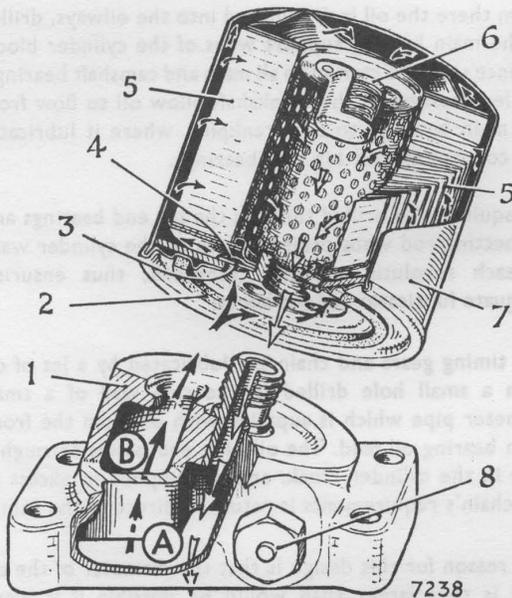

Fig. 9. Throw away type oil filter—internal details.
**FULL FLOW OIL FILTER**—see Fig. 9
Oil from the engine oil pump enters compartment "B" in the filter adaptor (1) and passes through eight port holes into the filter body. All oil entering the filter passes through the filter cartridge from the outside to the centre as shown in Fig. 9 and thence through the screwed spigot to compartment "A" in the adaptor casting. From here it enters the engine main oil gallery.
**By-pass valve**—see Fig. 9
A by-pass valve (6) is fitted inside the throw away filter unit and forms part of this assembly as shown in Fig. 9.
**To remove**—see Figs. 9 & 11